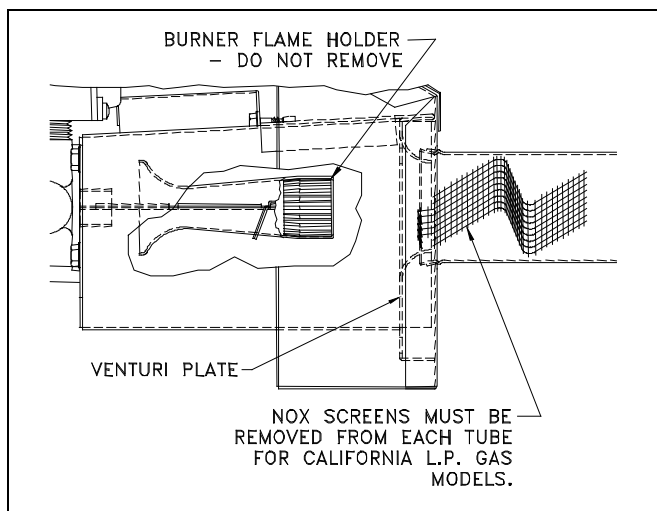

Figure 30. California NOx Screen Removal.
**WARNING:** Propane (LP) gas installations do not have gas meters to double-check input rate. Measure manifold pressure adjustment with an accurate manometer. Failure to accurately adjust pressure could cause heat exchanger failure.
**NOTE:** NOx reducing screens must be removed from each tube of California NOx furnaces when converting to propane (LP) gas. See Figure 30.